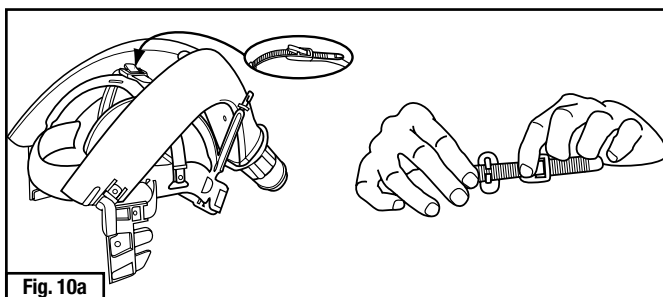

Fig. 10a
- Adjust the S-950 suspension as necessary to achieve a comfortable fit (Figs. 10a & 10b). An optional chin strap (S-958) is available for additional comfort and stability. See *Replacement Parts and Accessories* section of these *User Instructions* for additional information.